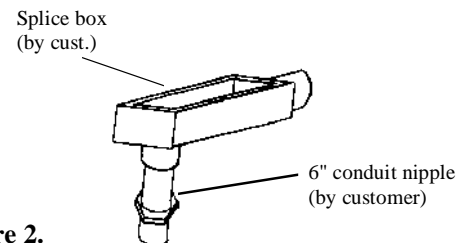

Figure 2.
2. Place silicone wire leads (18" free length provided) from the terminal box through the customer provided conduit, and connect the supply wiring inside the customer provided splice box. (See Figure 2 below)